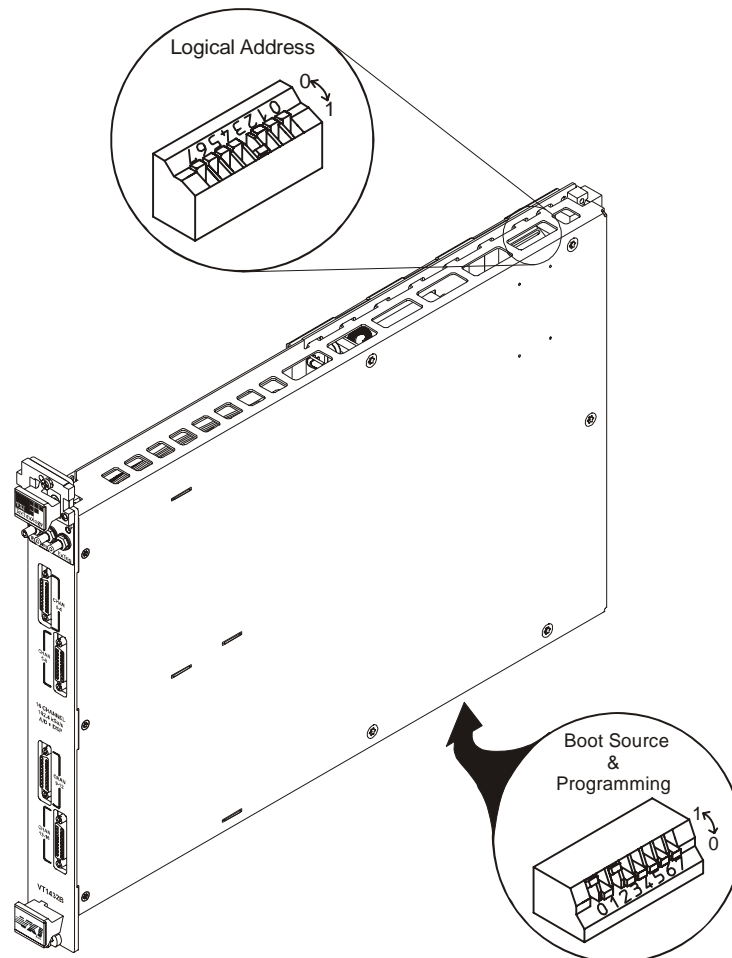

FIGURE 1-1: VT1432B SWITCH LOCATIONS
3. Using a small screwdriver or similar tool, set the logical address configuration switch on the VT1432B. (See Figure 1-1.) Each module in the system must have a unique logical address. The factory default setting is 0000 1000 (8). If a GPIB command module will be controlling the VT1432B module, select an address that is a multiple of 8. If the VXI system dynamically configures logical addresses, set the switch to 255.